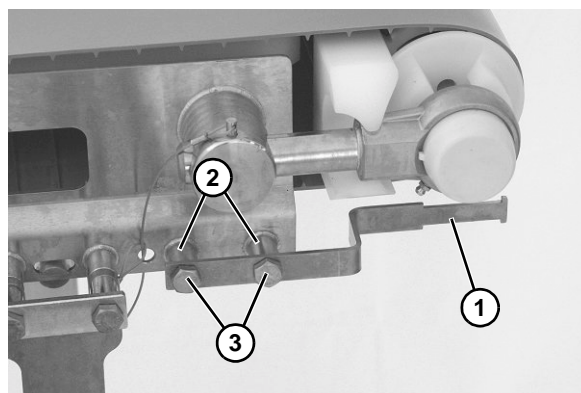

Figure 26
1. Loosely bolt limiter support plate (Figure 26, item 1) to conveyor frame stand off posts (Figure 26, item 2). Repeat on opposite side.
3. Adjust limiter to within 1/32" from belt, and tighten screws (**Figure 26, item 3**).